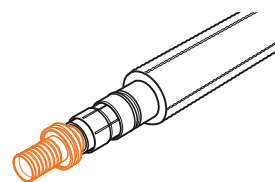

Fig. B10.3.3
6. Insert the inner coupler into the expanded pipe end (Fig. B10.3.3).